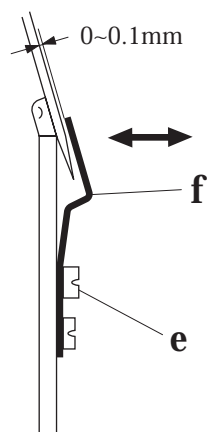
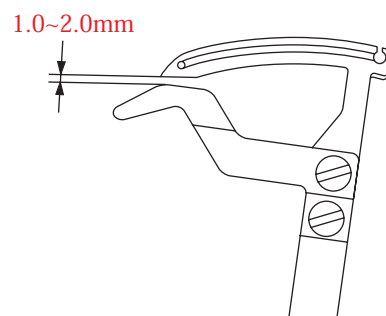

Fig.4
Fig.5
5. **Clearance of chain needle(s) guard:** Turn handwheel towards you until coverhem needle(s) approaches to chain needle guard as close as possible. At this time, the clearance between coverhem needle(s) and chain needle guard should be less than 0.1 mm. (See Fig. 4). If necessary, adjust the clearance with screw "**e**" (See Fig. 4) and make sure that the gap between chain needle guard and the tip of chain looper is set at 1.0~2.0 mm. (See Fig. 5).